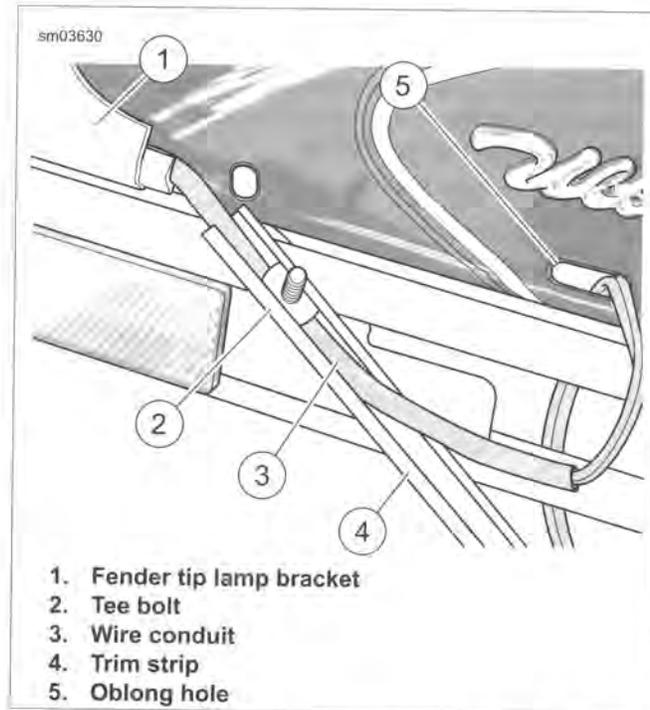

Figure 7-28. Install Conduit in Trim Strip
2. See Figure 7-28. Route harness through trim strip and into oblong hole (5). Confirm harness routes between trim strip and tee bolt.